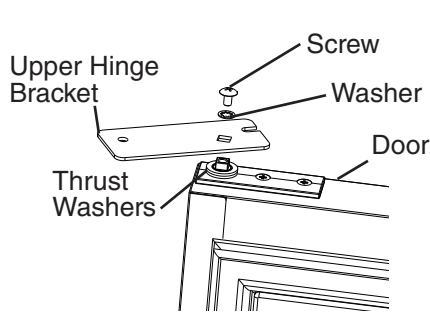

Fig. 9
- 7) While preventing the upper hinge bracket from rotating, remove the upper hinge bracket from the spring cartridge. See Fig. 9. Note which side of the upper hinge bracket is facing up.